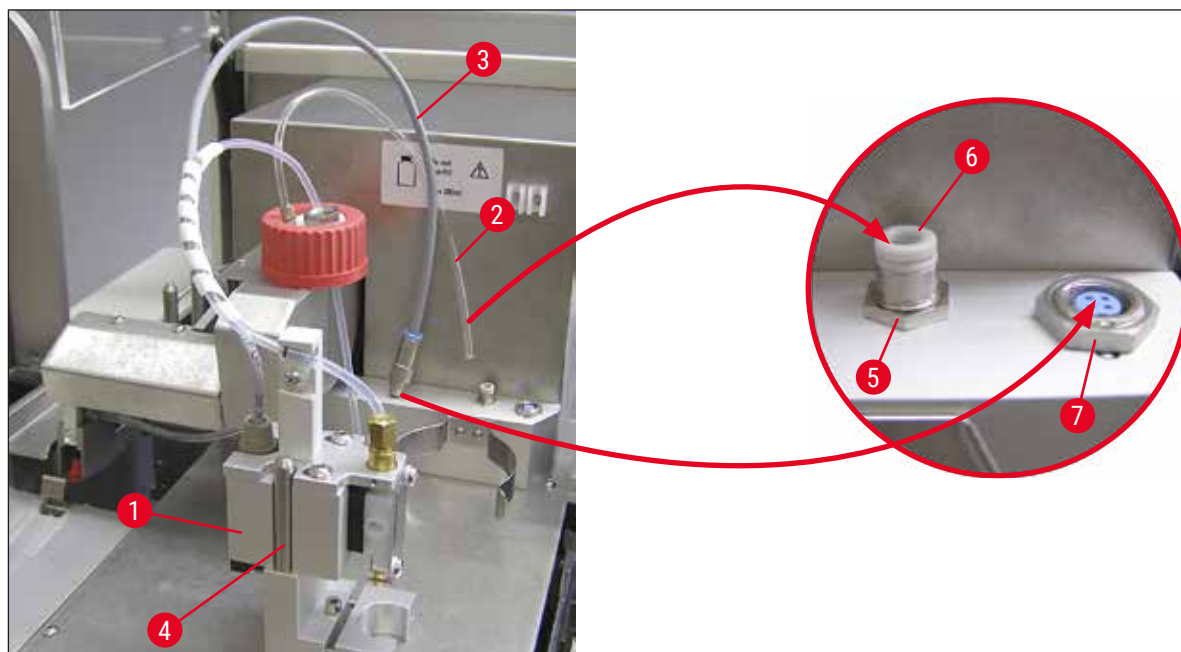

Fig. 11
2. Insert the dispenser (→ Fig. 11-1) into the holder (→ Fig. 11-4) for the prime position (→ Fig. 11).